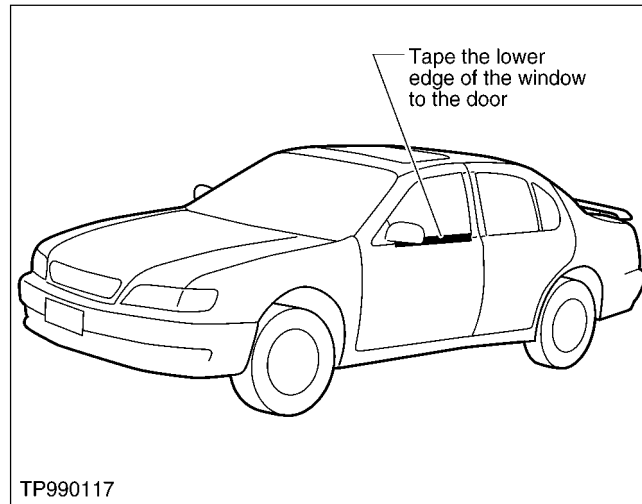

Figure 8. Lower Edge of Window
2. Apply high quality masking tape to cover the seam between the lower edge of the window and the door, across the lower molding (see Figure 8.) Test drive again.